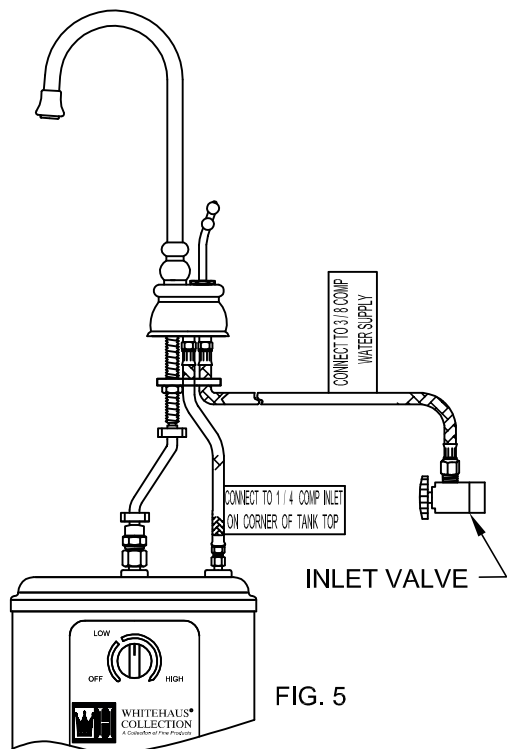

FIG. 5
9. **FOR WHFH-H4540 & WHFH-H4640** - SEE FIG 5 & 6. CONNECT WHD2001 3/8" COMPRESSION SUPPLY HOSE TO A SHUTOFF VALVE OR WATER FILTER. DO NOT CONNECT DIRECTLY TO THE WATER SUPPLY. **FLUSH** ALL LINES BEFORE CONNECTING.